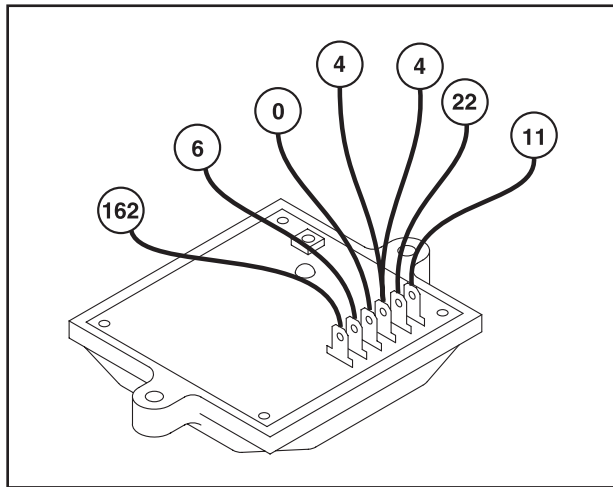

Figure 3. Voltage Regulator
1. Disconnect Wire 4 from the voltage regulator, 3rd terminal from the top. See Figure 3.
7. Disconnect Wire 11 from the voltage regulator and connect one test lead to that wire. Disconnect Wire 22 from the voltage regulator and connect the other test lead to that wire (both wires are located at the top two terminals of the voltage regulator, see Figure 3).
1. Locate Wire 4 that is routed from the circuit board and connects to the voltage regulator terminal, third from the top (see Figure 3). Disconnect that wire from the voltage regulator terminal.